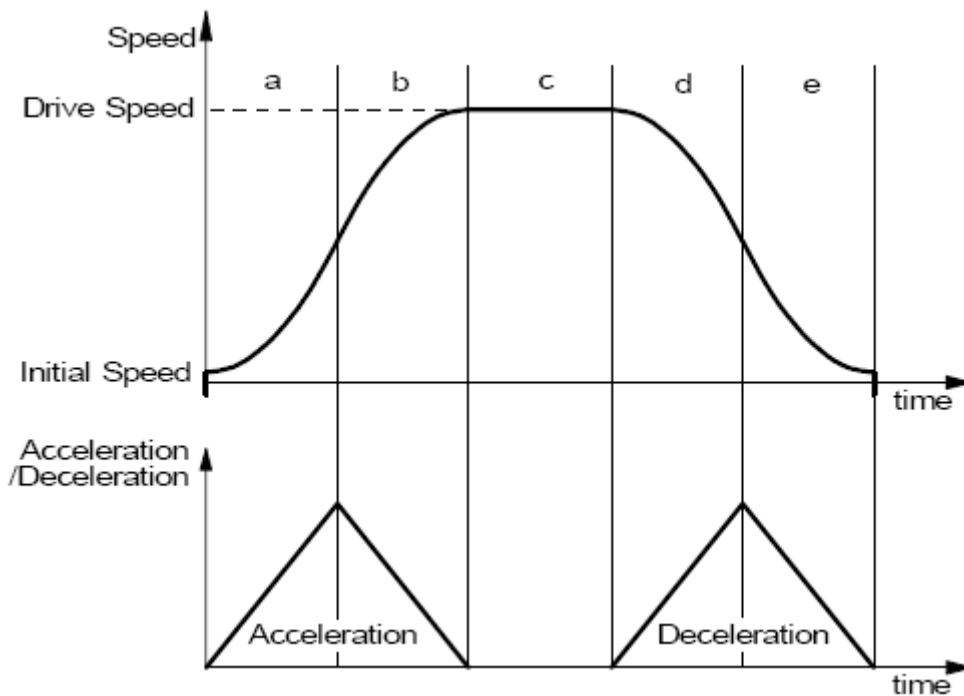

Fig. 5.10 Symmetrical S-Curve Acceleration/Deceleration Driving
Figure 5.10 shows the operation of S-curve acceleration/deceleration driving where the acceleration and the deceleration are symmetrical. When driving starts, the acceleration increases on a straight line at the specified jerk (K). In this case, the speed data forms a secondary parabolic curve (section a). If the difference between the specified drive speed (V) and the current speed becomes less than the speed that was utilized at the increase of acceleration, the acceleration starts to decrease towards 0. The decrease ratio is the same as the increase ratio and the acceleration decreases in a linear form of the specified jerk (K). In this case, the rate curve forms a parabola of reverse direction (section b).